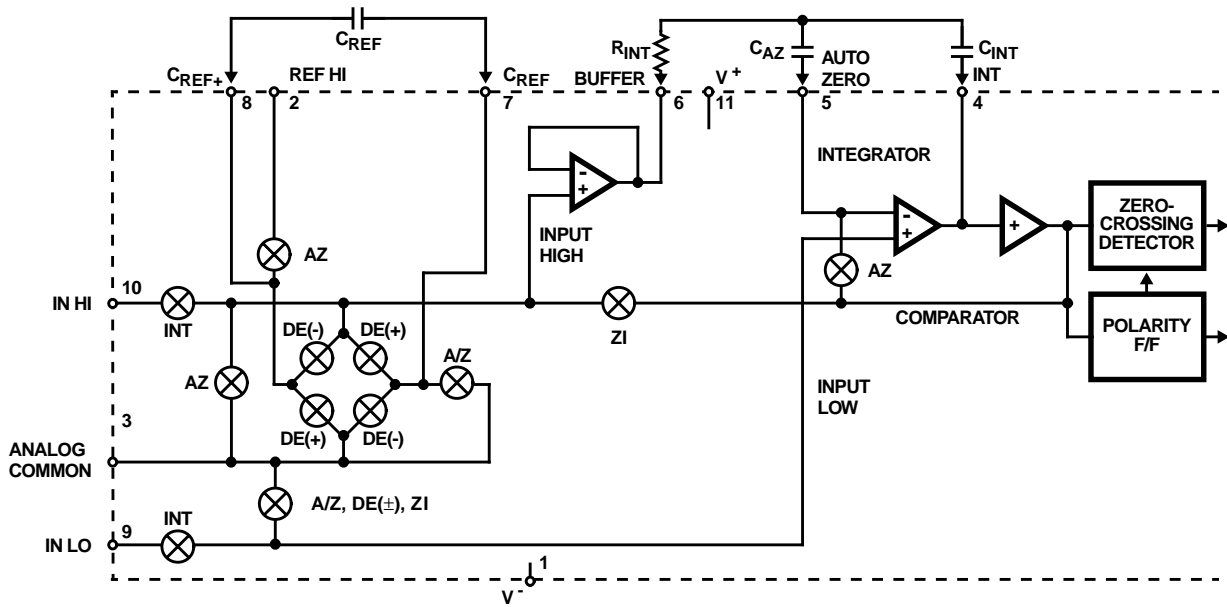

FIGURE 3. ANALOG SECTION OF ICL7135
- Tested in 4^{1/2} digit (20,000 count) circuit shown in Figure 3. (Clock frequency 120kHz.)
Figure 3 shows the Block Diagram of the Analog Section for the ICL7135. Each measurement cycle is divided into four phases. They are (1) auto-zero (AZ), (2) signal-integrate (INT), (3) de-integrate (DE) and (4) zero-integrator (ZI).